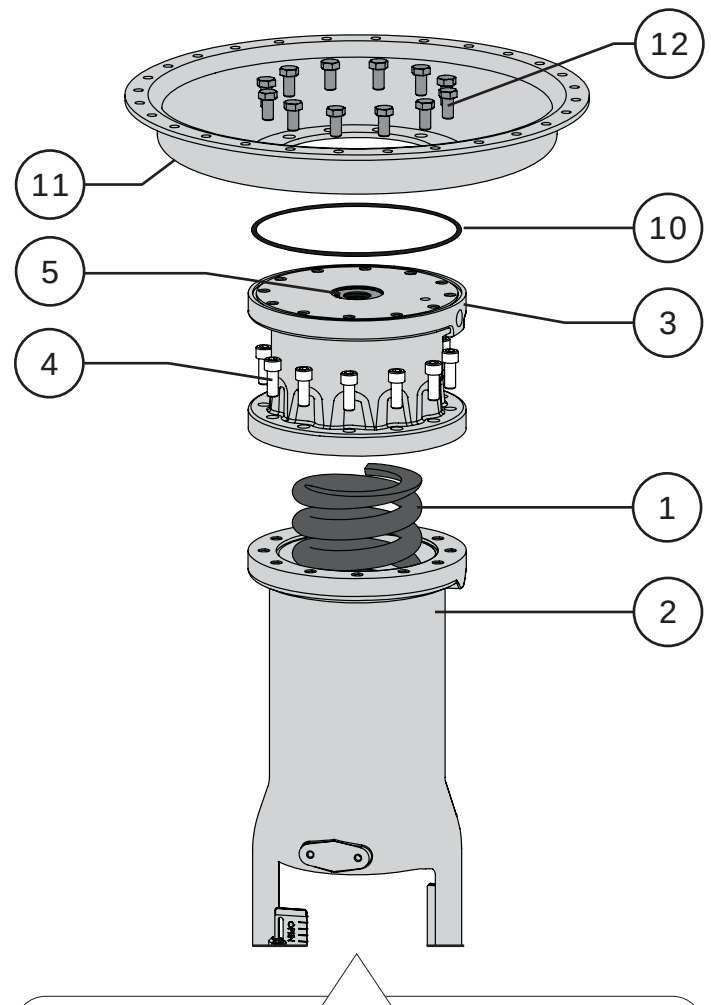

Figure 18 3220-4 Disassembly Detail
- 9 Remove the spring seat (Key 14) and spring (Key 1) from inside the yoke (Key 2). **NOTE:** For size 3220-4 actuators the spring casing adapter (Key 3) must be removed from the yoke (Key 2) to remove the spring. Refer to Figure 18.
- 2 Remove the gasket (Key 9). **NOTE:** Size 3220 and 3220-4 actuators make their seal using an o-ring (Key 10) instead of a gasket. Remove the o-ring (Figure 18).
- 2 Place the spring case adapter (Key 3) on top of the yoke (Key 2) and orientate it as shown in Figure 18.